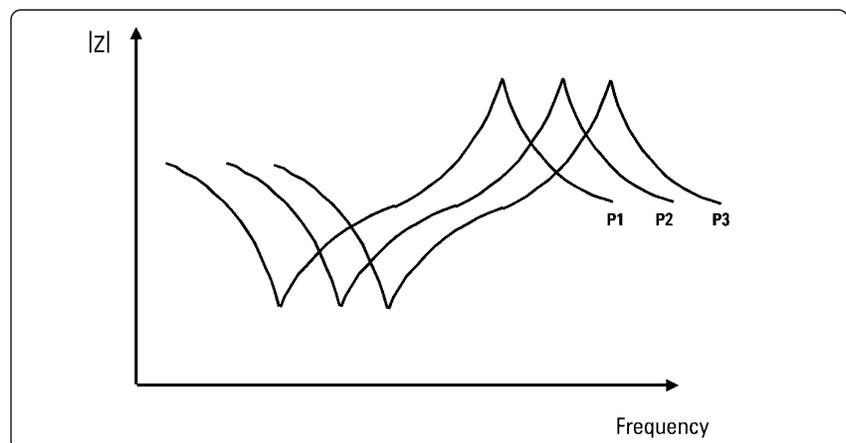

Figure 1. Drive level characteristics evaluation based on frequency sweep
- Frequency sweep of evaluation of characteristics requires the resonant frequency and impedance to be obtained by frequency sweep on each drive level, as illustrated in figure 1. This results in longer overall measurement time, and hence reduced throughput.